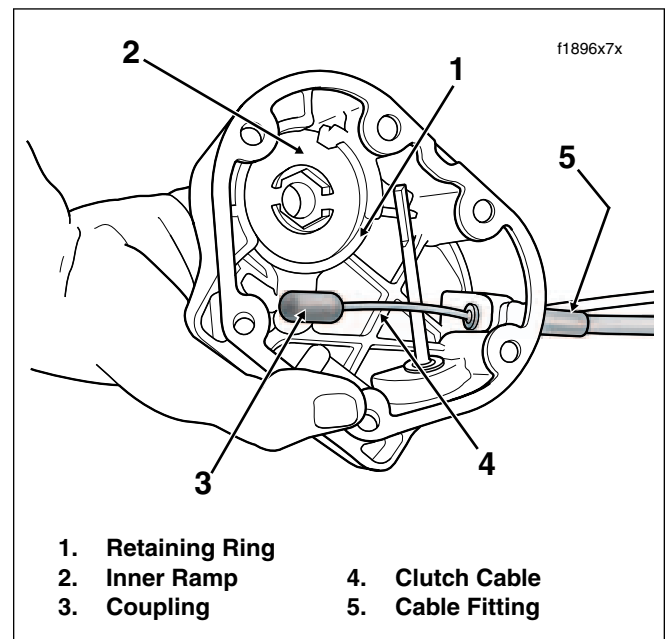

Figure 2-115. Clutch Release Cover Assembly
8. Remove six socket head screws and washers to free clutch release cover from transmission case. Remove and discard gasket. See Figure 2-115.
7. Inspect cable fitting O-ring and replace if damaged or deformed. Install clutch cable fitting into clutch release cover. See Figure 2-115. Do not tighten cable fitting at this time.